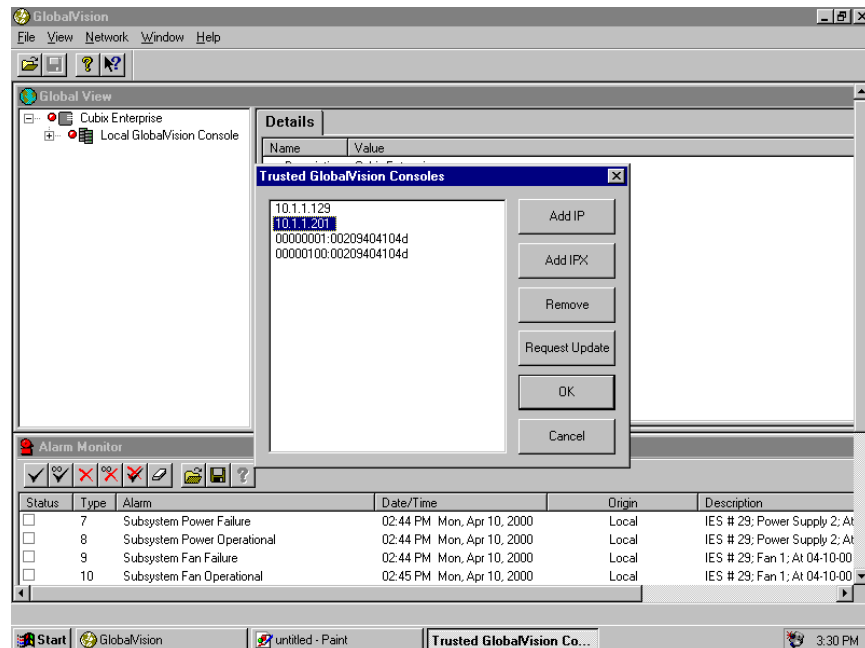

Figure 88 – Removing Trusted IP or IPX Console screen
- If you wish to remove any console from the Trusted GlobalVision console list, **highlight** the address or addresses to be removed. When you highlight an address, the **Remove** button becomes active. Click on the **Remove** button. See Figure 88. The Trusted GlobalVision Consoles screen will reflect the changes requested. You must click on **OK** to finalize the change. A dialog box will appear telling you that GlobalVision must be restarted for changes to take effect.